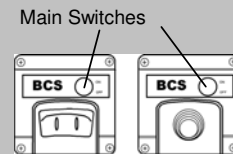

Fig. 31
- Switch on the main switch (Fig. 31).